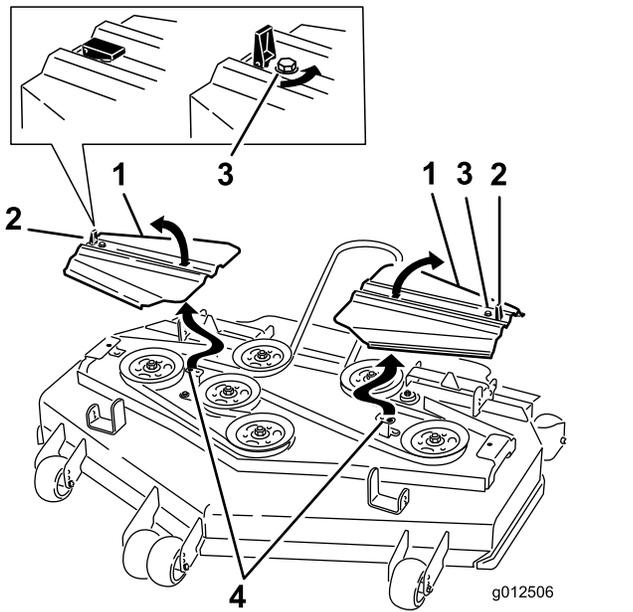

Figure 87
14. Install the belt covers with the tabs in the slots. Install the screws and close the latches (Figure 87).